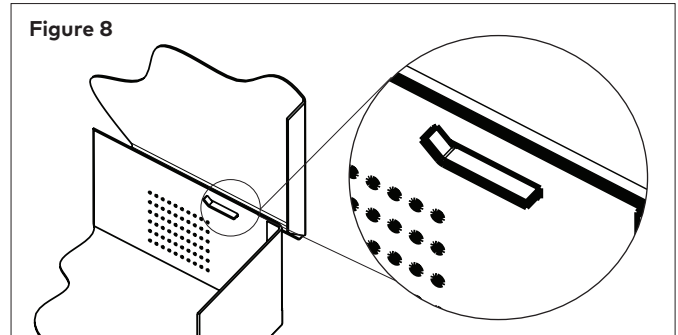

Figure 8
2. Bend the two tabs on door to a maximum of 30 degrees as shown in Figure 8.